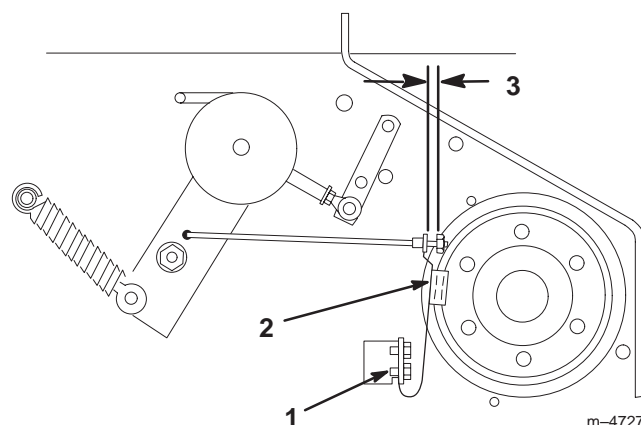

Figure 51
2. If necessary, adjust the spring mounting bolts so that the blade brake pad rubs against the pulley edges (Fig. 51).
3. Adjust the nut at the end of the blade brake rod until there is 1/8” (3mm)–3/16” (5mm) between the nut and spacer (Fig. 51).